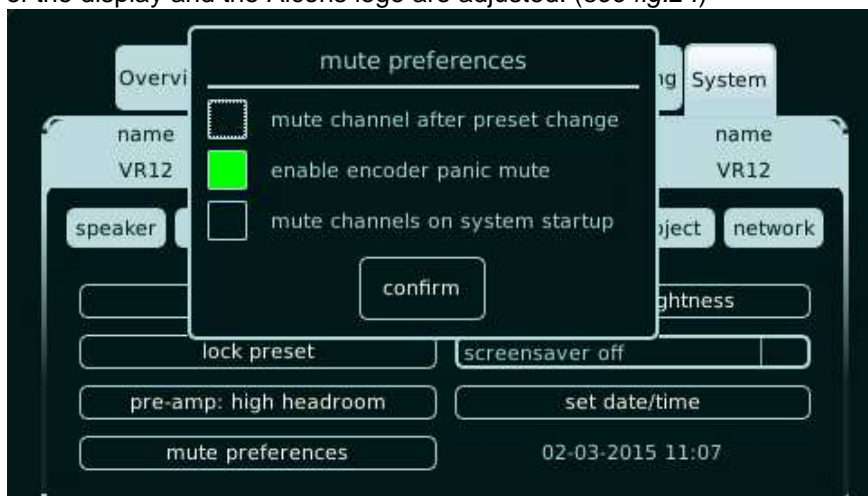

Fig 23. Mute preferences set-up menu
**7.7.7 Mute preferences**- different muting options prevents unwanted passing of audio, while being active in the Preset tab, or with startup. (see fig.23)